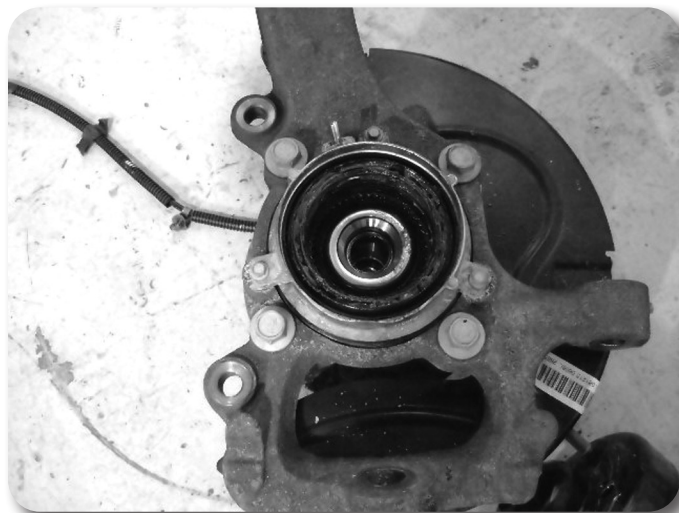

Figure 14 - 4wd Shown, 2wd Similar
33. Remove the four hub bolts from the knuckle and remove the hub from the knuckle Figure 14. Inspect mounting surface of the hub assembly and clean any dirt or corrosion off as necessary.